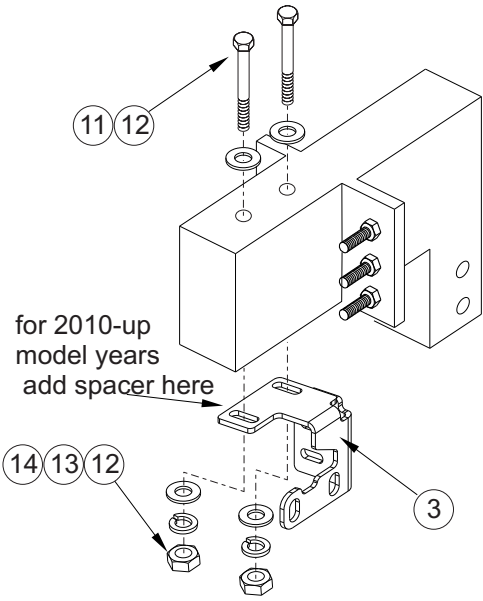

FIGURE 3 DRIVER SIDE SHOWN, PASSENGER SIDE OPPOSITE
- STEP 4.** Attach support brace to brackets using 3/8" stainless steel fasteners. Attach support brace to frame using M12 fasteners. Leave loose. SEE FIGURE 3.